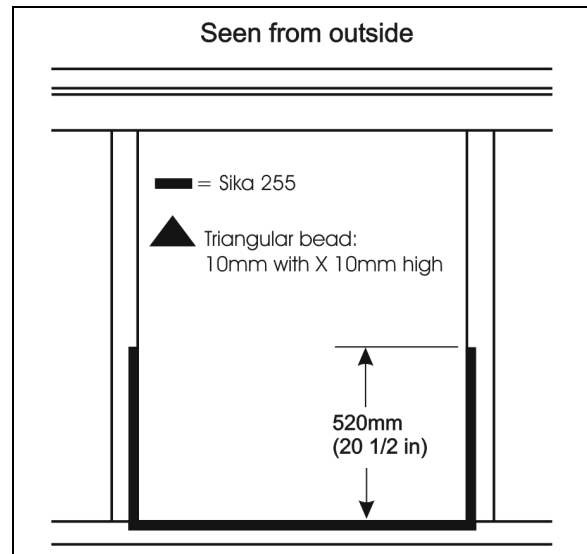

FIGURE 66: AWNING WINDOW – SIKa 255 APPLICATION
7. Apply Sika 255 as per FIGURE 66 (triangular bead: 10mm width X 10mm high).